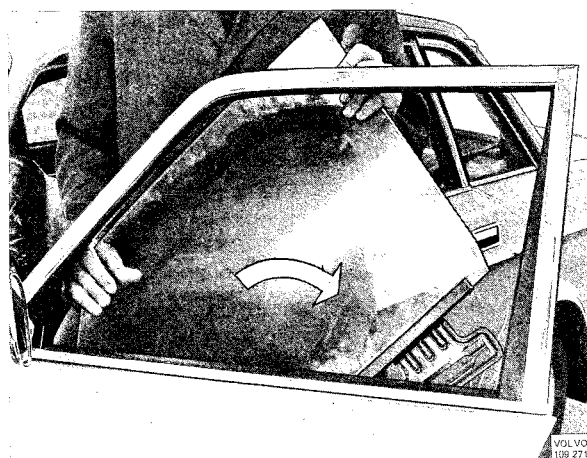

Fig. 8-21. Installing door window
2. Lower the window with the shorter end first and turn it at the same time as shown in Fig. 8-21.
17. Lift the window into the door with the pointed part first and then turn it slightly away from the car, as shown in Fig. 8-21.